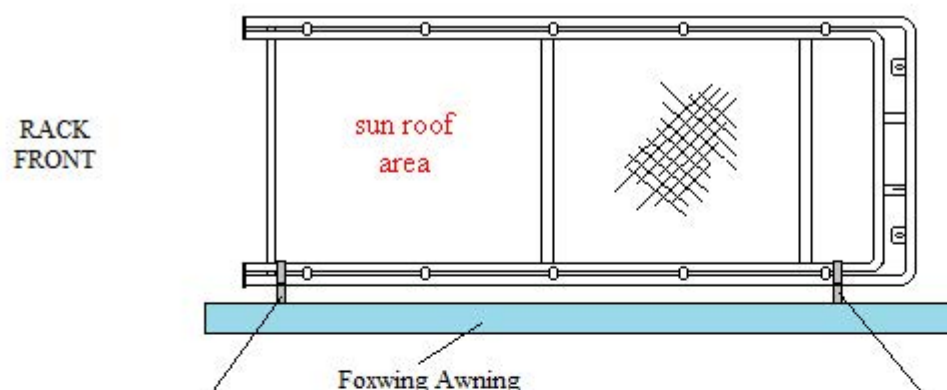

Fig. 1
The Foxwing Awning should be installed on the Driver side of the vehicle so that the awning can wrap around the rear of the vehicle for best coverage results. Refer to Fig. 1 and Fig. 2 below for placement of support brackets (A). Start your measurement at the front of the Gobi rack as shown then space brackets (A) apart as far as possible.